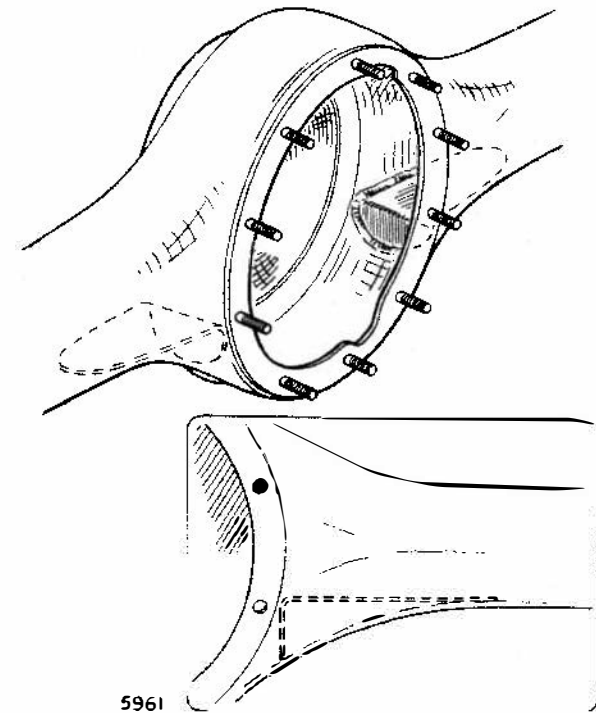

Fig. 11. Oil baffles fitted welded in position in rear axle housing.
14. Rear Axle casing modification—When cornering at very high speeds, such as occurs in circuit racing, the centrifugal force is high enough to force the rear axle oil up into the rear axle banjo tube. This considerably reduces the amount of oil that is lubricating the crown wheel and pinion, and tends to flood the oil seal. To overcome this difficulty the rear axle should be removed as a complete assembly, and, after completely dismantling, modified as shown in Fig. 11.